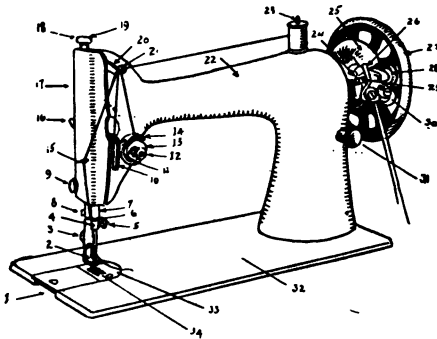

FIG. 132. Lock-stitch machine.
**235. Lock-Stitch Sewing Machine.** A lock-stitch sewing machine (Figs. 132 and 133) consists of shafts and
**236. Feed Plate.** A device below the needle called the feed plate (No. 34, Fig. 132) shoves the cloth faster or slower under the needle, according to its adjustment, thus making